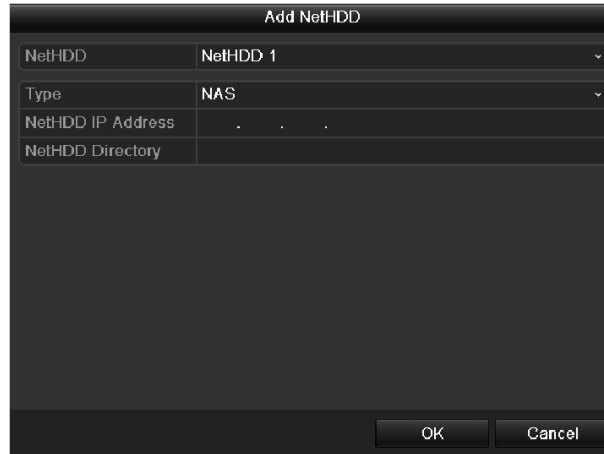

Figure 13-7 HDD Information Interface
Step 2 Click the **Add** button to enter the Add NetHDD interface, as shown in Figure 13-7.